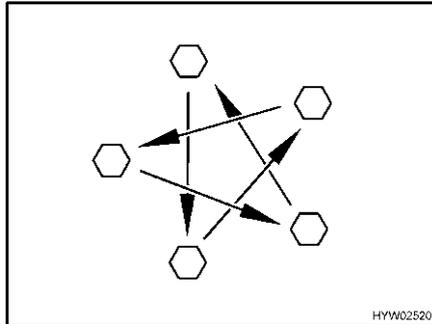

Fig. 282 Tighten the wheel nuts or wheel bolts cross-wise
- Check regularly that the wheel nuts or wheel bolts are firmly seated. Retighten the wheel nuts or wheel bolts of a changed wheel cross-wise (Fig. 282) after 50 km (30 miles). See section 13.5.2 for tightening torque.
- ▷ Tighten the wheel nuts or wheel bolts cross-wise (Fig. 282).